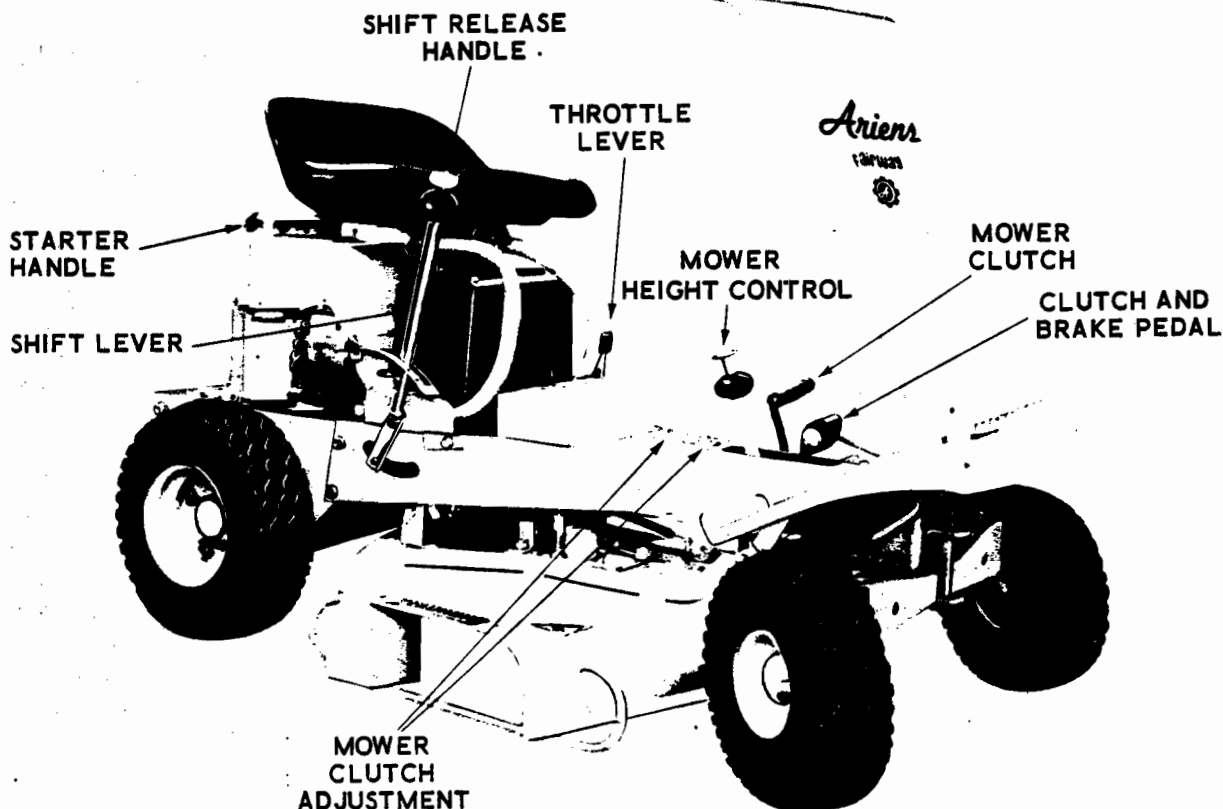

Figure 2
a. Before starting engine, place shift lever (figure 2) in neutral position. Place mower clutch (figure 2) in the OUT position.
2. CHANGING SPEEDS (See figure 2)
stopping the mower. The mower clutch pedal (figure 2) is located on the left side of the main frame.
a. Height of mower blade may be varied from 1-1/2 to 3-1/4-inches by moving the height control arm (figure 2).
9. MOWER CLUTCH ADJUSTMENT (Figure 2)